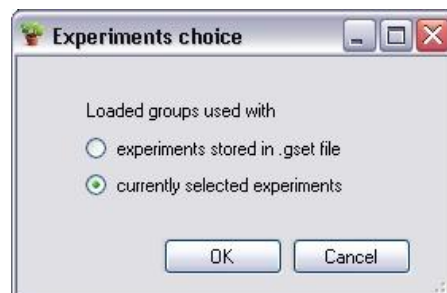

Fig. 23
- o Select the option “currently selected experiments” in opened dialog window (Fig. 23)
- o Confirm by clicking the button “OK” in dialog window (Fig. 23)